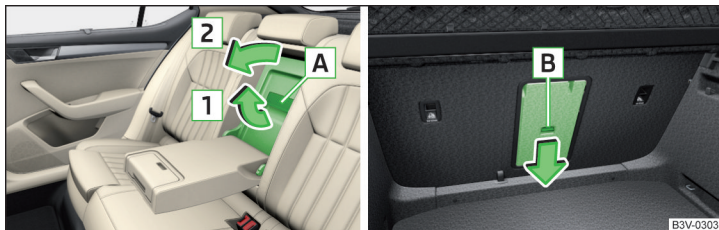

Fig. 125 Open lid: from the passenger compartment / from the luggage compartment
- Pull opening lever **A** » Fig. 125 in the direction of arrow **1** until it stops. The catches on the cover must engage completely in the lid and click into place.
- Fold the rear armrest and the cover in the seat backrest downwards » Fig. 125 on page 98.